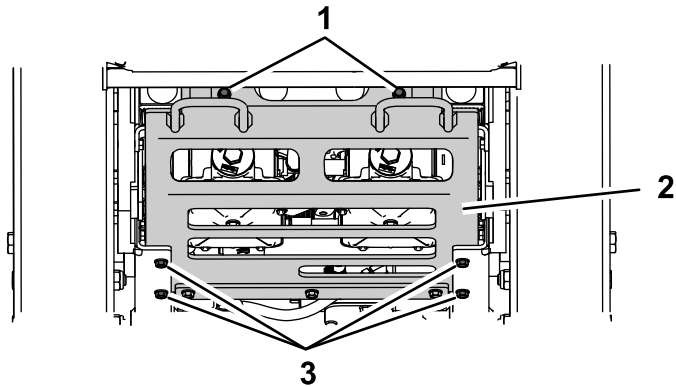

Figure 49
- Remove the 6 bolts (2 rear, 4 side) from the skid plate and remove the skid plate (Figure 49).
- Install the skid plate (Figure 49).